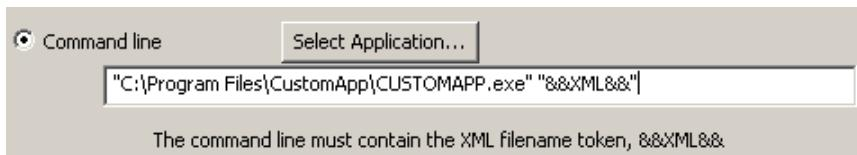

Figure 115. Example of a command line.
If you select **Command Line**, click on **Select Application** to locate the software application that you want to automatically launch when the file is generated. This application must accept a command line filename argument. After you locate and select the application, the application pathname will appear in the **Command Line** field enclosed in quotation marks, and the string “**&&XML&&**” will be automatically appended to it, as shown in Figure 115.
- If you manually enter the application pathname, it must be enclosed in quotation marks, as shown in Figure 115.